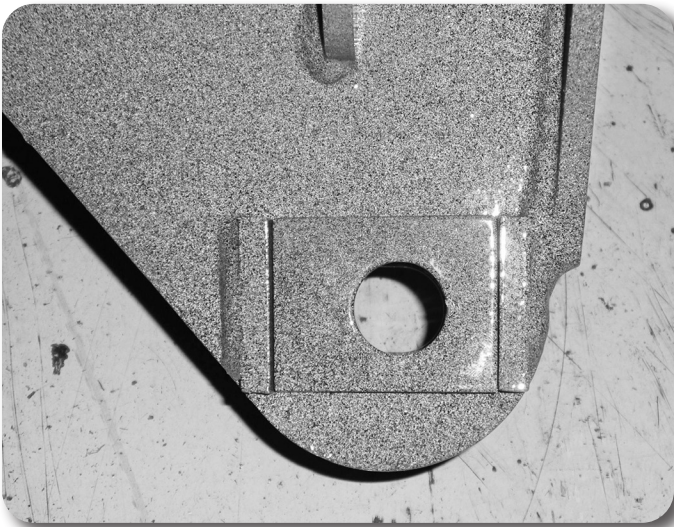

Figure 4 (Driver side installation Shown)
*Note: If installing on a vehicle with 3" of lift, offset the holes in the cams closer to the passenger's side. If installing on 2017-2019 Super Duty with 1-2" of lift, offset the holes in the cams closer to the passenger's side (Fig 4). If installing on 2005-2016 or 2020+ Super Duty with 1-2" of lift, offset the holes in the cams closer to the driver's side (Fig 4)*